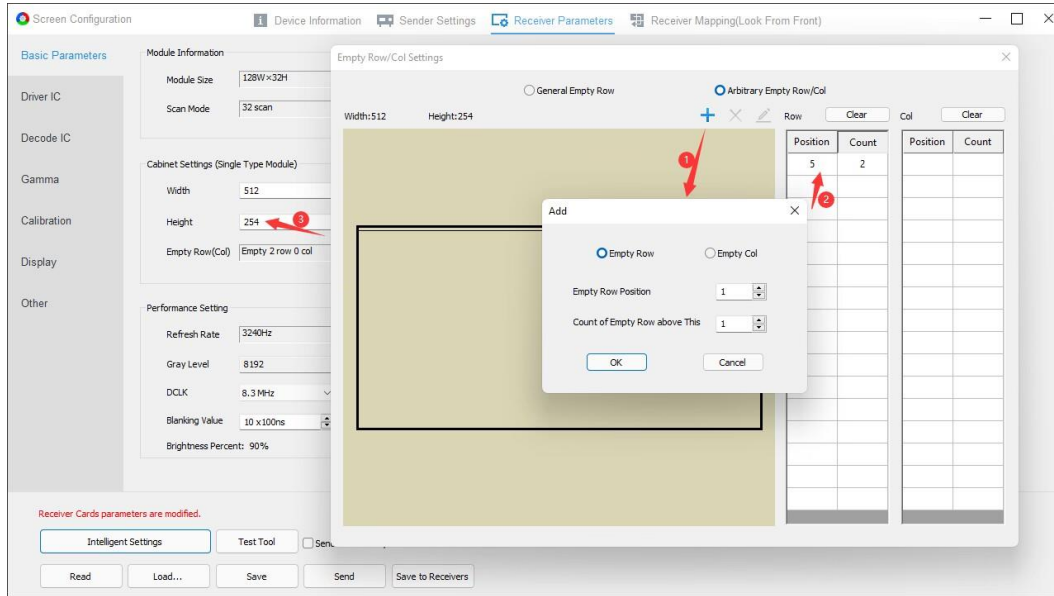

Fig 6.3.1.8 Empty row/col settings
Step 2: Modify the width and height of the cabinets. As shown in Figure 6.3.1.8.